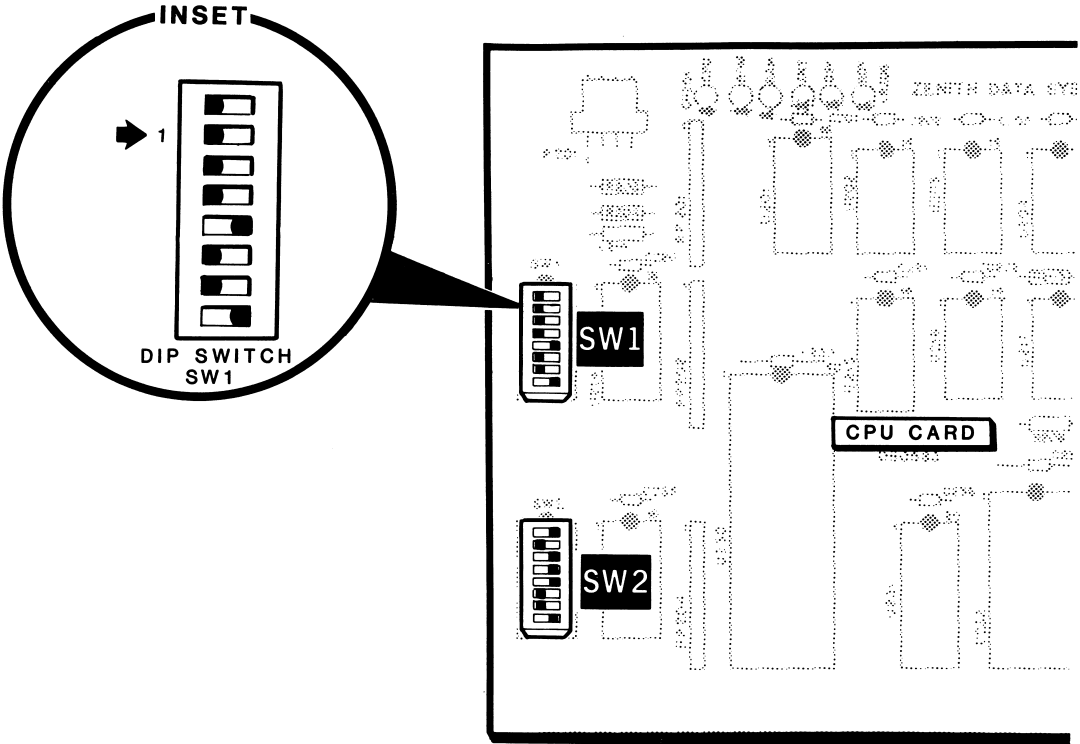

Figure 7. Location and Configuration of SW1
See Figure 7.
- ☐ With a small tool, move the switch in section 1 of SW1 from right to left to show the existence of the 8087 coprocessor. See the inset in Figure 7.